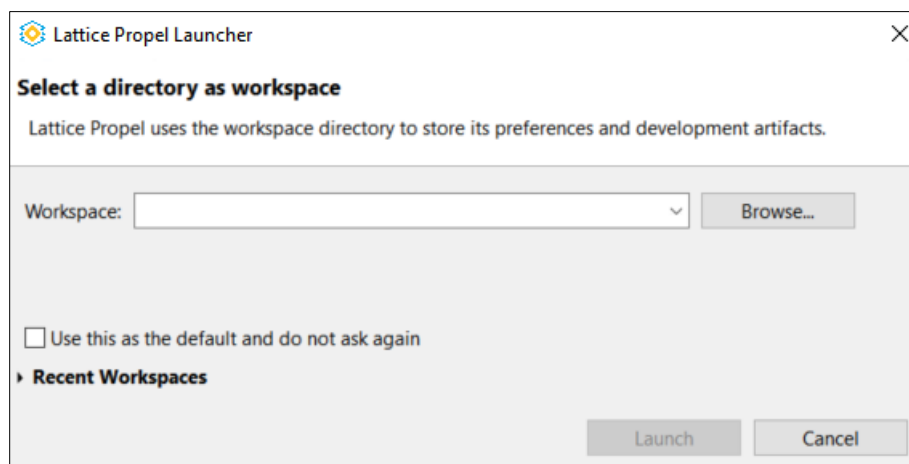

Figure 7.1. Propel SDK Launcher
3. To select the workspace, browse to the created folder by clicking on the **Browse** button as shown in Figure 7.1 and click on **Launch** to create the workspace.